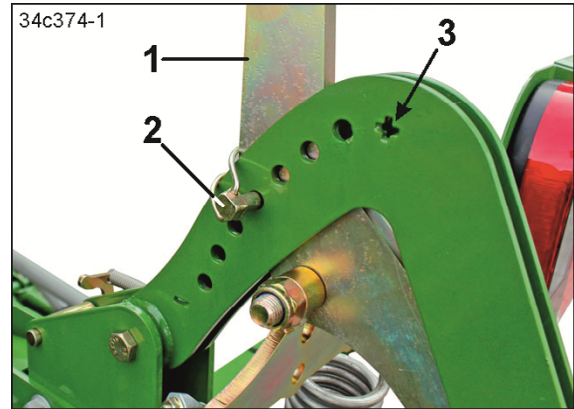

Fig. 184
4. Secure the position of the lever (Fig. 184/1) with a tube clip (Fig. 184/2).
The roller contact pressure is highest when the tube clip (Fig. 184/2) is inserted in the hole beside the plus symbol (Fig. 184/3).